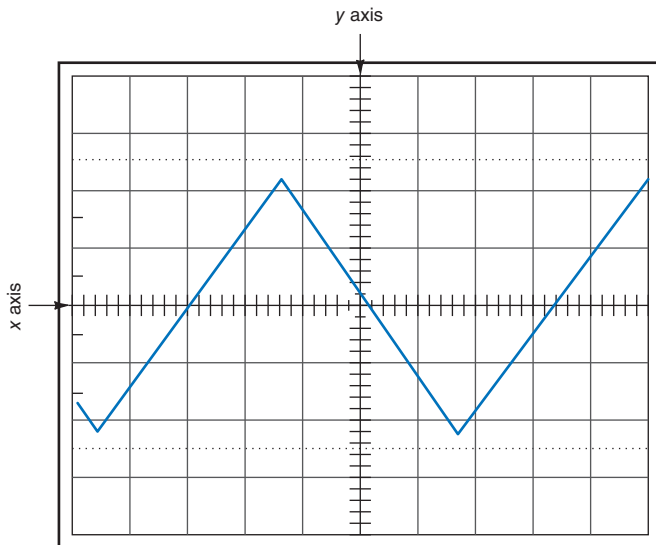

Figure 26-28 Vertical: 0.5 V/div; horizontal: 5 μ s/div.
26.1 In Fig. 26-28, what is the peak-to-peak voltage of the waveform and its period and frequency?